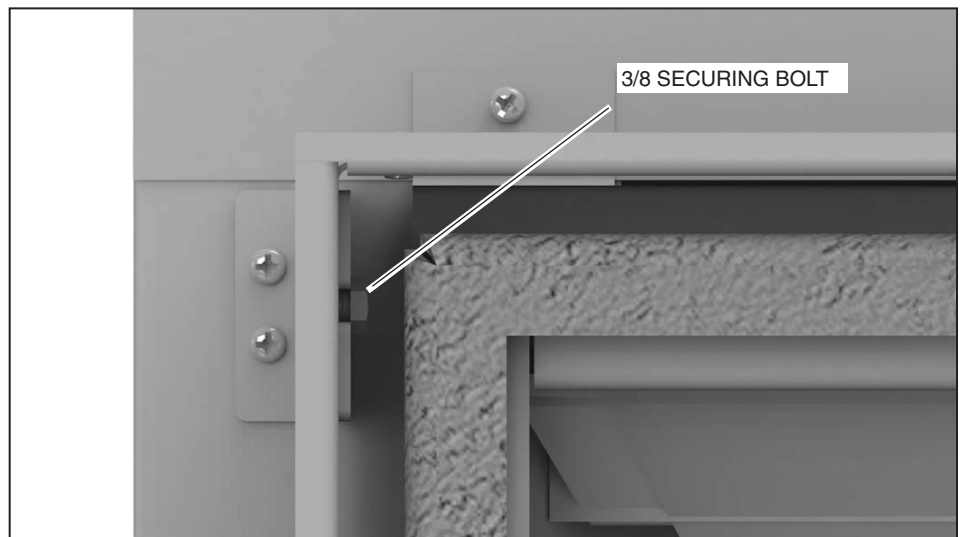

Figure 18: Lintel securing bolt.
4. Loosen the securing bolts in the upper and lower corners on each side of the lintel and remove the lintel. Rotate the assembly to have the desired edge away from the fireplace (Figure 18).
6. Tighten the securing bolts (Figure 18).